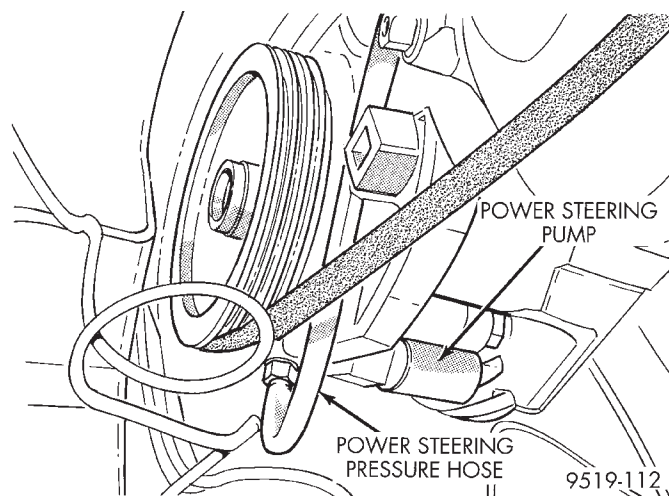

Fig. 32 Power Steering Fluid Pressure Hose Attachment To Pump
(7) Remove the power steering fluid pressure hose from pressure fitting on power steering pump (Fig. 32). Let remaining power steering fluid drain out of the power steering fluid supply hose, power steering pump and power steering fluid pressure hose. **After power steering fluid has drained out of pump and hose, install a cap on the power steering pressure hose and a plug in the power steering pump pressure fitting.**
(10) Position power steering pressure hose in outlet fitting of power steering pump, so hose is not contacting the pulley of power steering pump drive belt (Fig. 32). The tighten tube nut to a torque of 31 N·m (275 in. lbs.).